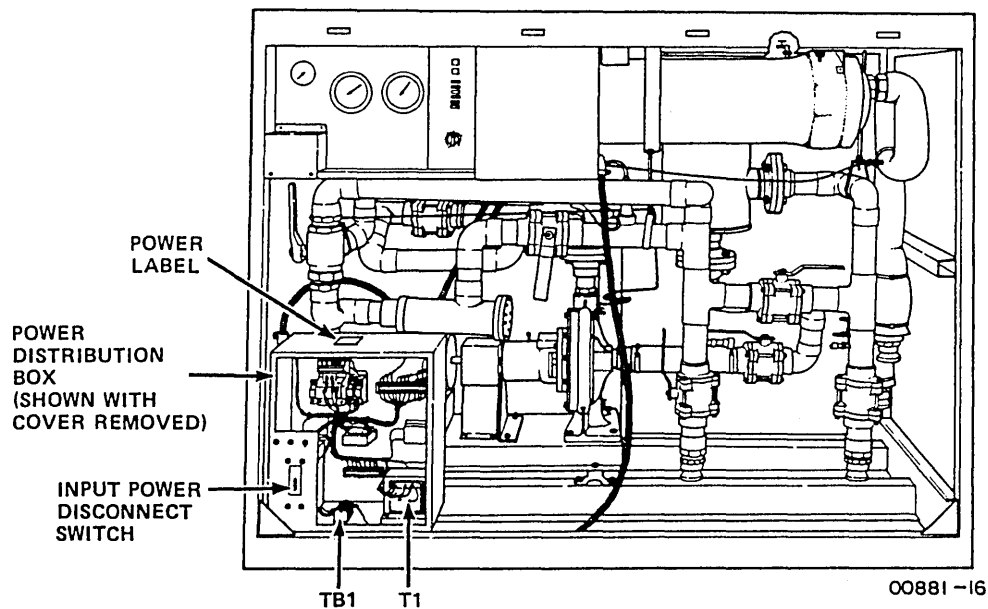

Figure 3-15. Power Connections to 220-L/min (58-gal/min) Unit
- ___ 1. Set INPUT POWER DISCONNECT switch on water cooling unit (figure 3-15) to OFF.